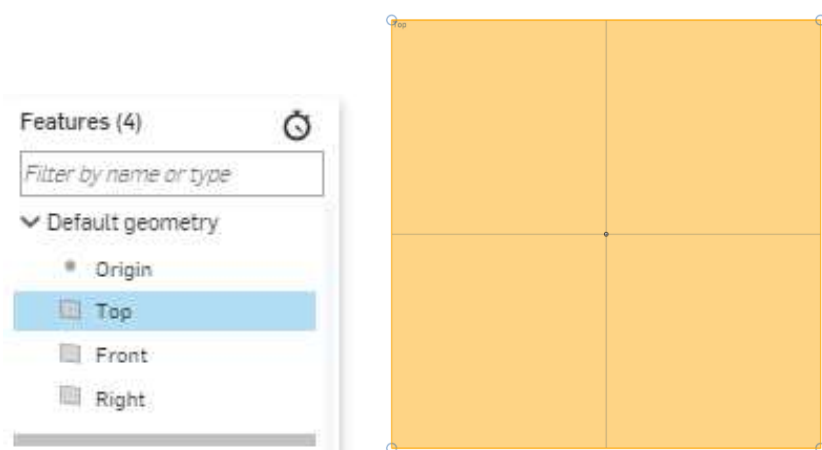
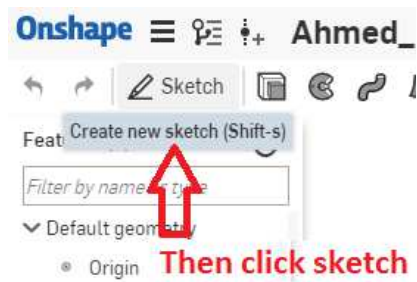

Figure 2.6: Creating a sketch on the "Front" plane.
Figure 2.7: Create a new sketch.
- 5) Please click and select the "Top" plane from your workspace or "Features" tree (figure 2.6) and click "Sketch" (figure 2.7). Alternatively, you can select the "Front" and then "Top" plane and press "Shift + s".